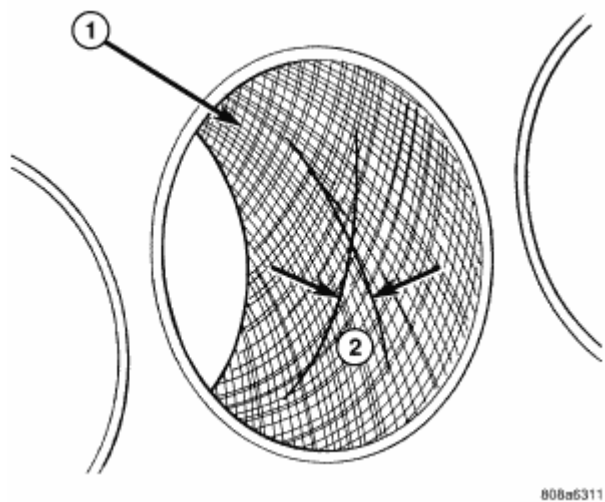

Fig. 192: Honing Cylinder Bore
2. Honing should be done by moving the hone up and down fast enough to get a cross-hatch pattern. When hone marks **intersect** at 30-50 degrees, the cross hatch angle is most satisfactory for proper seating of rings. See **Fig. 192**.